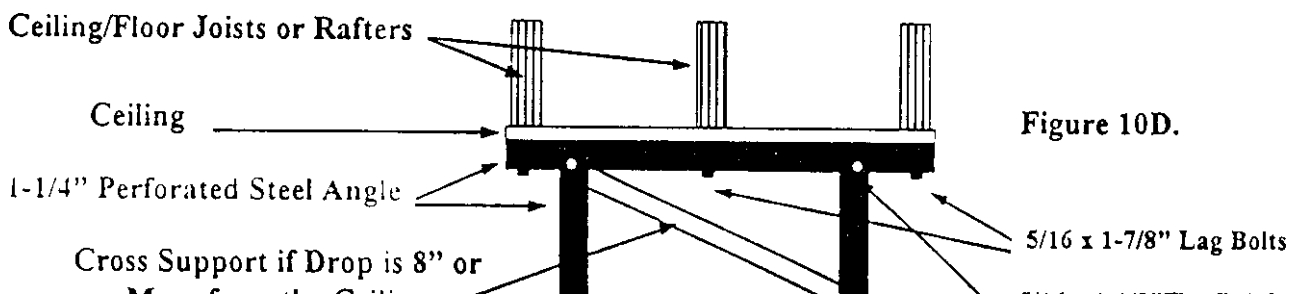

Figure 10D.
Step 4. Mount Power Head to Ceiling: Since there are many different ceiling designs, all possible mounting illustrations can not be shown. Primary concern is to secure the power head to the ceiling so that operational strength, rigidity and safety are achieved. The opener must be securely fastened to a structural support of the garage. Although there are a series of mounting slots provided on the power unit, try to secure the mounting hangers to the slots closest to the front. Mounting may usually be accomplished by using standard 1-1/4" perforated steel angle available at most hardware stores or from your local garage door service person. If in doubt as to location of, and attachment to, ceiling joists, a carpenter should be contacted to provide assistance. A cross support will be necessary if power head is mounted 8" or more from the ceiling. See Figure 10D.